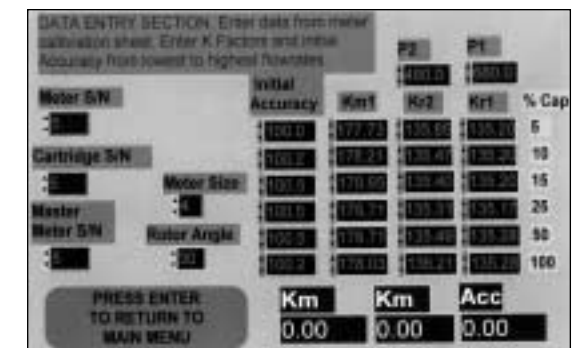

Figure 13 Data Entry Screen
- Click on “View Original Data” or press F4. This brings up the data entry screen which displays meter parameters such as K-factors for each rotor, the initial meter accuracy at various flow rates, meter size, serial numbers, etc., Figure 13. Check this data against the calibration sheet supplied with the meter.
Note: The screen shows a “Ptest” display, the pressure at which the accuracy test is to be conducted. The default value shown is the pressure P2 on the Data Entry Screen, Figure 13, which is the meter operating pressure. If you are proving the meter at atmospheric pressure, enter .2 psi in the Ptest display using the mouse to click in the window and keying in the pressure. This will allow the laptop to use the atmospheric K-factors for this test, but does not lock in the Ptest value.